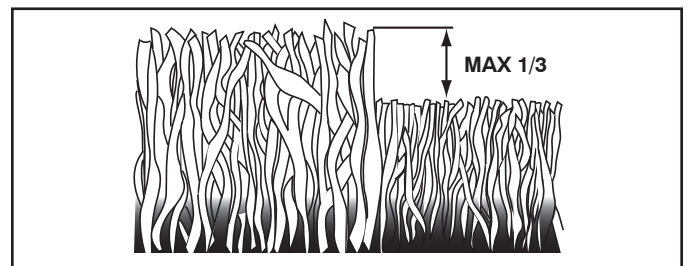

Fig. 14
- For best results, adjust the mower cutting height so that the mower cuts off only the top one-third of the grass blades (See Fig. 14). For extremely heavy mulching, reduce your width of cut on each pass and mow slowly.